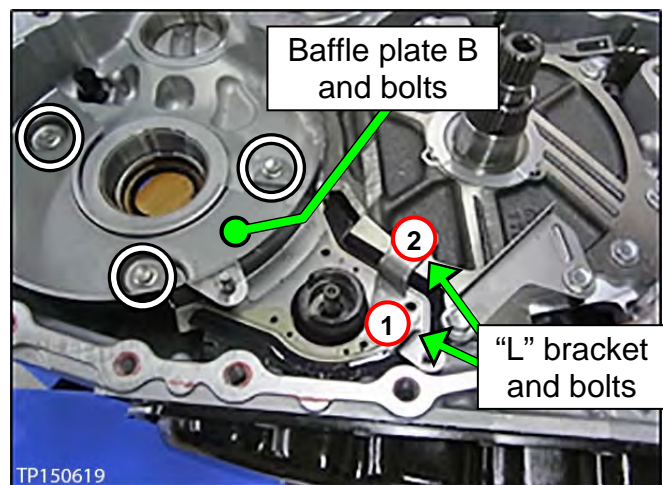

Figure 6I
6. Install baffle plate B and "L" bracket with the related bolts finger tight (Figure 6I).